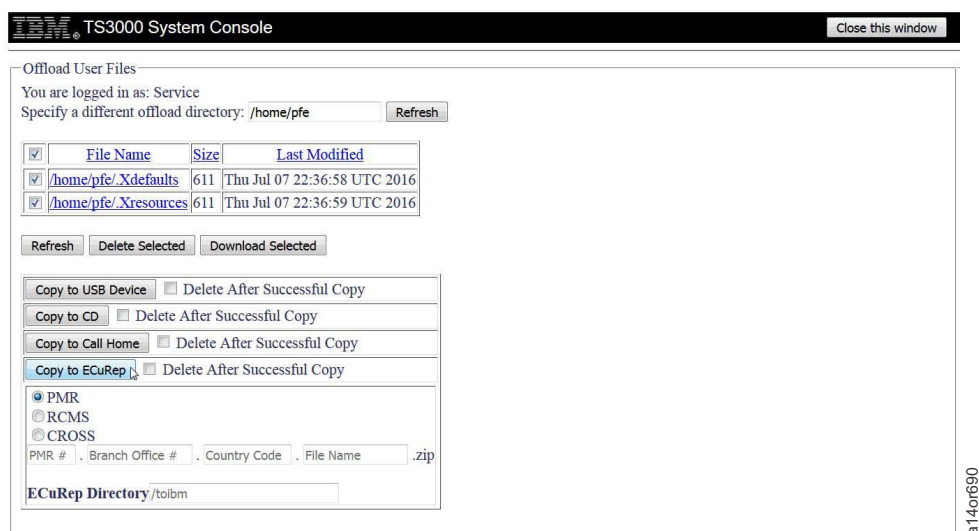

Figure 185. Offload User Files menu example
4. Select **Offload User Files**. You see Figure 185 on page 150. The directory setting defaults to your user's offload directory. For the user **service**, you are prompted for the directory you want to download the data. The suggested directory is `"/home/service/offload"`. You can change to a different directory by adding another name in the "Specify a different offload directory" field, and clicking **Refresh** next to that input area. You can also change directories by clicking a directory name in the file list field.
Refresh	Refresh the screen (Figure 185)